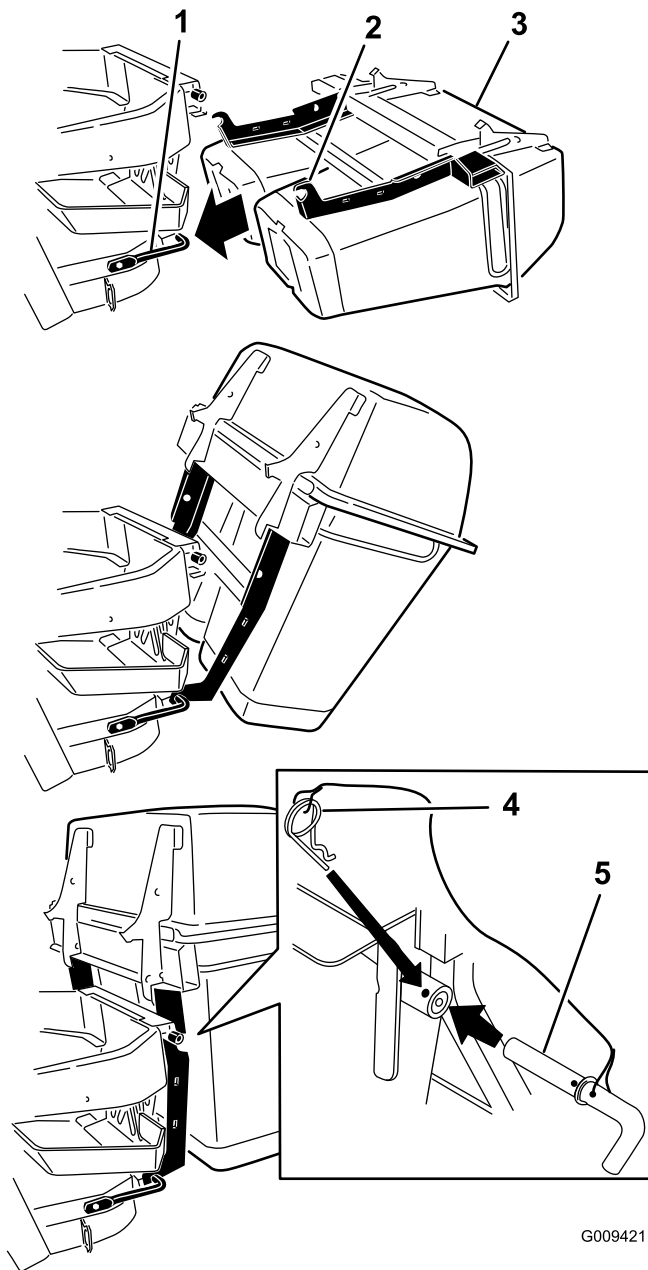

Figure 7
2. Slide hooks onto the lower mounting bracket (Figure 7).
3. Rotate the hood assembly up on the lower bagger mounting bracket (Figure 7).
4. Align the hole in the bagger with the upper mounting bracket (Figure 7).
5. Install the pin and secure it with the hairpin cotter on both sides (Figure 7).